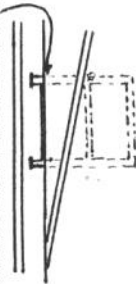

Fig. 1. PASSENGER STEPS.
- Cut away the moulded passenger steps horizontally below the top step, as indicated in Fig 1., leaving the truss rod intact. Cut away the small part of the steps between the sole bar and the truss rod. There is no need to remove the rectangular mouldings located behind the solebars and level with the top steps.